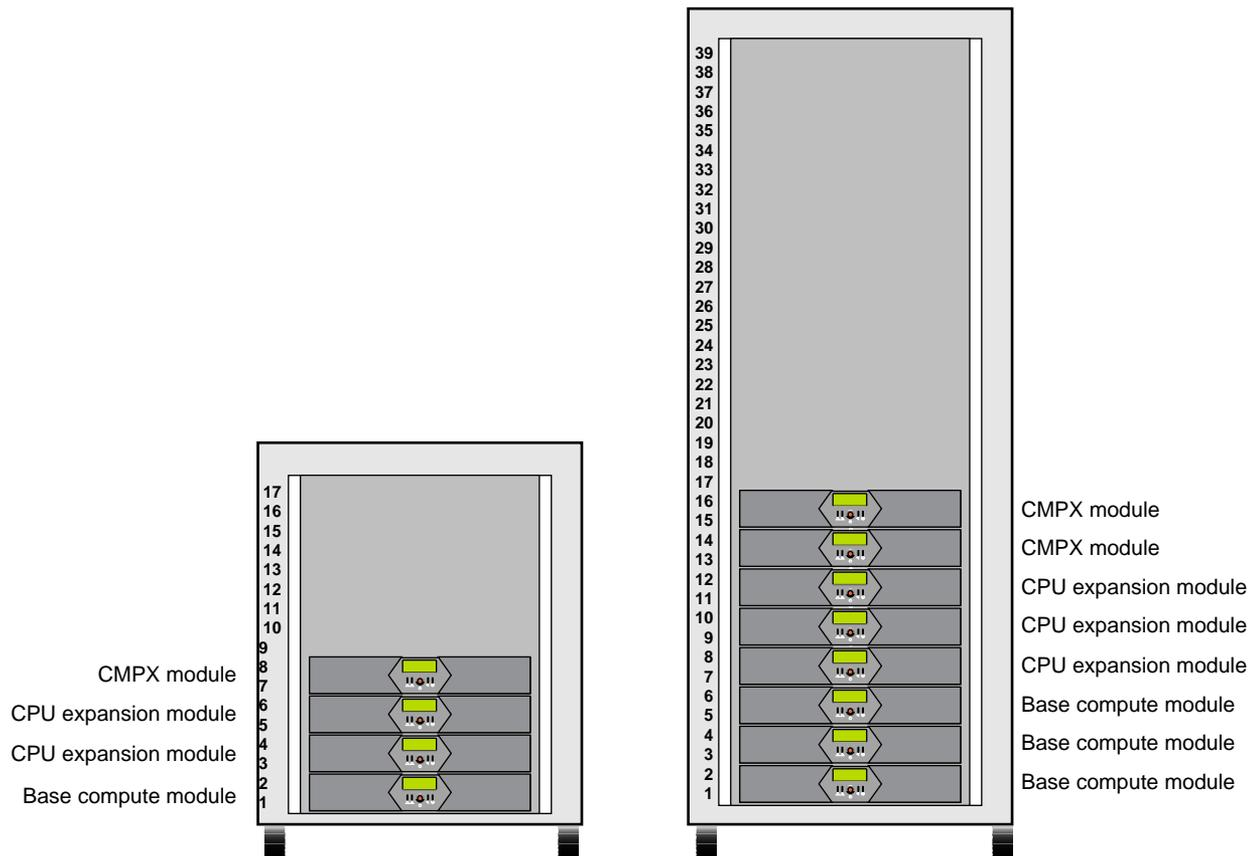

Figure 2-23 Unit Numbering Within Racks
The Altix 350 system supports two rack types: a short rack and a tall rack. The racks are measured in standard units (U); one U is equal to 1.75 in. (4.45 cm). The short rack is a 17U rack and the tall rack is a 39U rack (see Figure 2-23).
The components within the rack are identified by the lowest U number that they occupy. For example, the top CMPX module shown in Figure 2-23 is identified as U7 in the short rack and U15 in the tall rack.